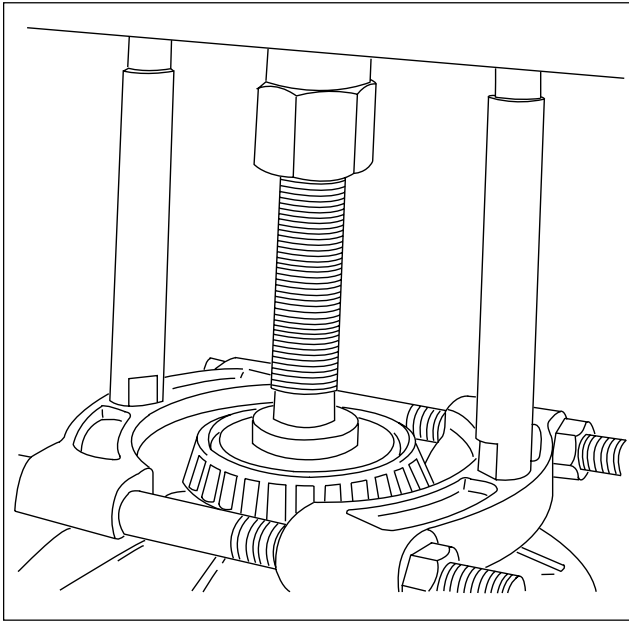

Figure 4
6. If differential bearing cones are to be replaced, remove old bearings using a suitable puller. See Figure 4.